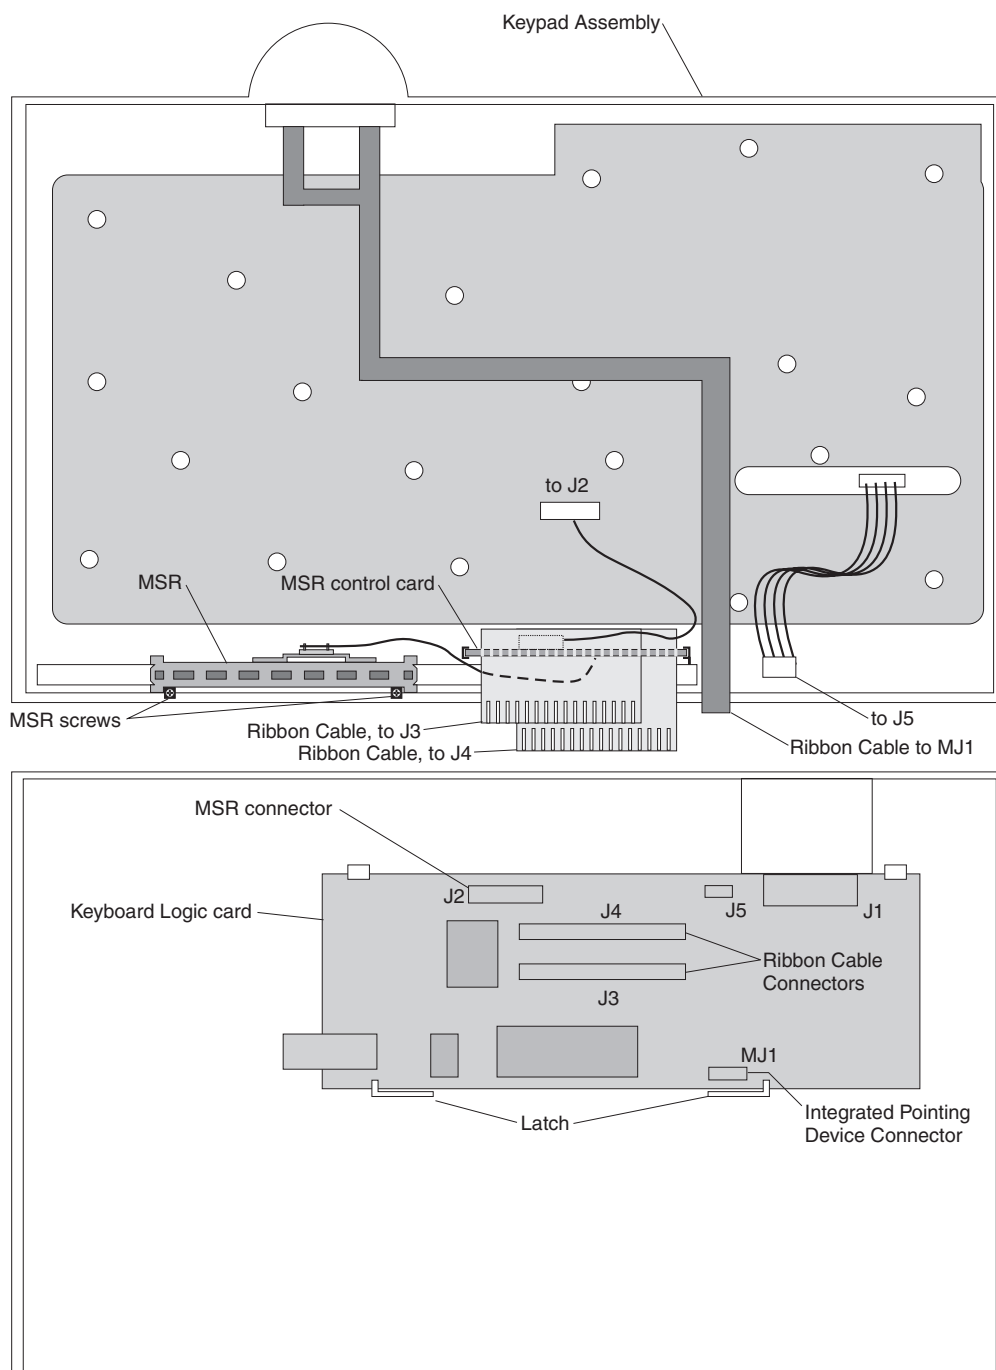

Figure 112. CANPOS keypad assembly with MSR
2. Remove the two screws holding the MSR to the keypad assembly as shown in Figure 112. Lift the MSR up and off the the two plastic guides on the keypad assembly.
3. Align the MSR's two screw-holes tabs with the screw holes on the keypad assembly and slide the MSR into the two plastic guides. Install and tighten the two screws, as shown in Figure 112 on page 142.